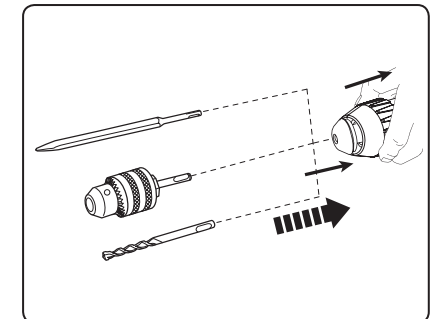

Fig. 3
- When using the hammer drill with a chuck clamp head with an SDS plus shank as shown in fig. 3, to clamp a drill bit with a standard cylindrical shank, it is necessary to set the drilling without percussion mode.